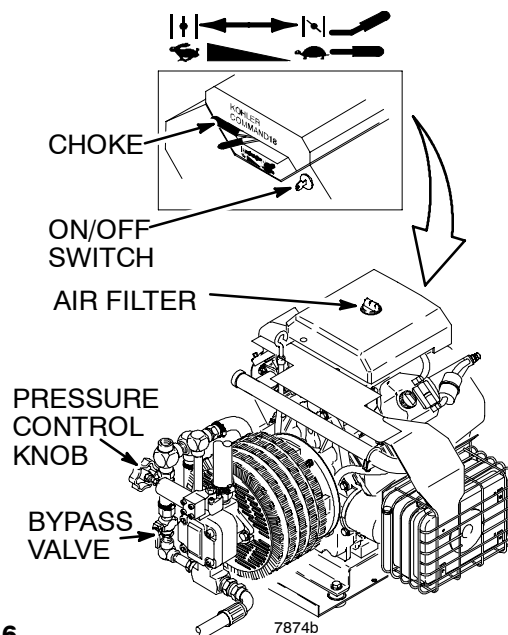

Fig 6
- a. Open the bypass valve to make startup easier. In the open position, the valve lever is parallel to the body of the valve. See Fig 6. Close the filter drain valve.
- d. If the engine is cold, close the choke by moving the choke lever. See Fig 6.
3. Turn and hold the ignition key to START until you hear the engine "catch", then release the key to RUN. See Fig 6. If the engine does not start, open the choke a little (move lever). If the engine floods, open the choke all the way and try again.
- e. After the engine is warm, gradually open the choke lever (move choke lever) and close the bypass valve. See Fig 6.
To stop the engine in an emergency, turn OFF the ignition key. Close the bypass valve if possible. See Fig 6. Then follow the **Pressure Relief Procedure Warning on page 10.**
- f. Squeeze the trigger and *slowly* turn the pressure control knob *clockwise* just enough to start the pump. See Fig 6.